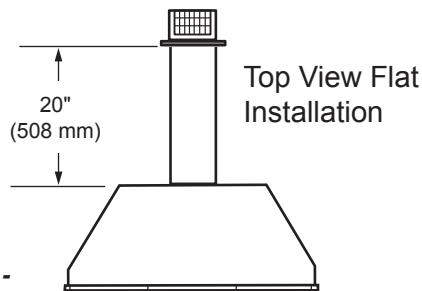

Figure 17 -
- The maximum horizontal distance between the rear of the appliance and the outside face of the rear wall is 20" (508 mm). *Figure 17*